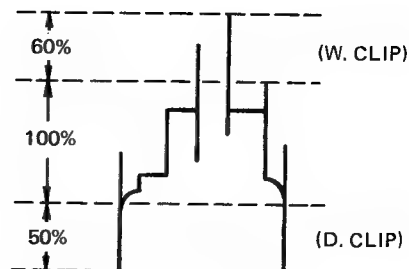

Figure 8-29.
3. Monitoring TP201 with an oscilloscope, adjust R221 (D. CLIP) and R214 (W-CLIP) to attain the figures given in Figure 8-29.